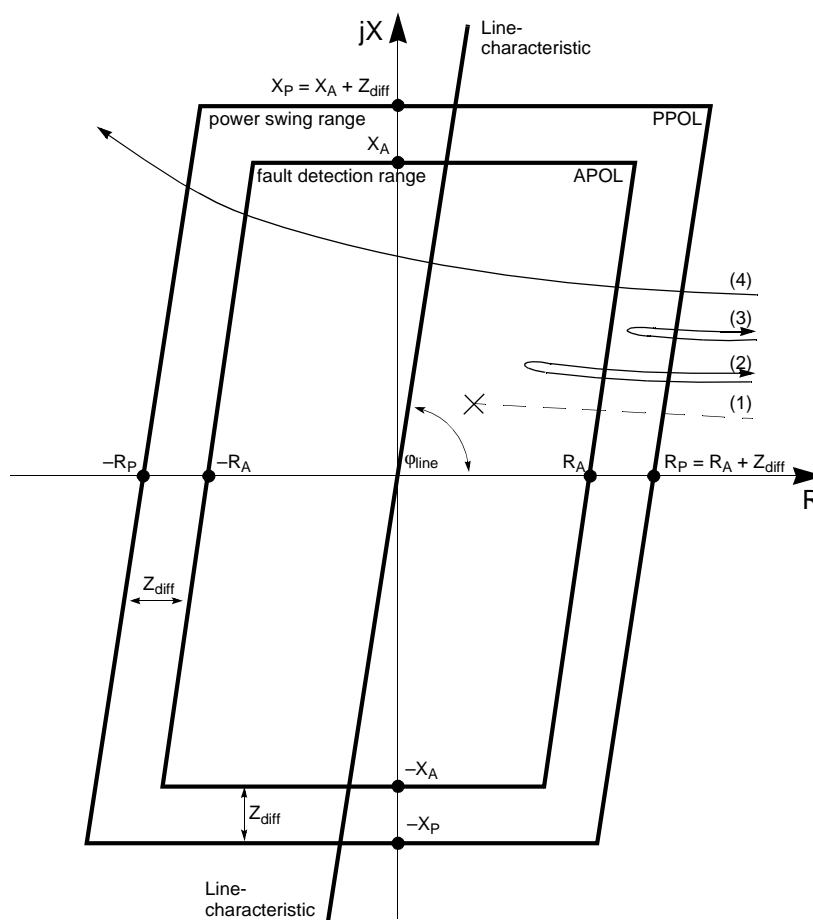

Figure 6-41 Pick up characteristic of the power swing detection for a polygon.
To detect a power swing, the rate of change of the impedance vector is measured. In the case of the polygon characteristic, the measurement is started when the impedance vector enters the power swing measuring range PPOL (refer to Figure 6-41). The fault detection range APOL is made up of the largest set values for R and X of all the activated zones. The power swing range has a minimum distance  $Z_{diff}$  of 5  $\Omega$  (at  $I_N =$
When the impedance vectors identified by the power swing detection exit the power swing characteristic PPOL, the R components are used to check if the vectors have the same sign as was the case when they entered the power swing characteristic. If this is the case, the power swing process is inclined to stabilize. Otherwise, the vector passed through the power swing characteristic (loss of synchronism, case (4) in Figure 6-41). The device issues a three-pole trip command, thereby isolating the two system segments from each other. Power swing tripping is alarmed.